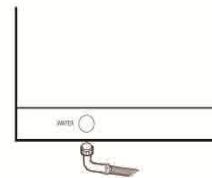

Fig. 5
- 2- Connect the solenoid valve, which feeds the machine, to the water shut valve, using a flexible line. (Fig.5) **Each machine must have its own water supply line.**